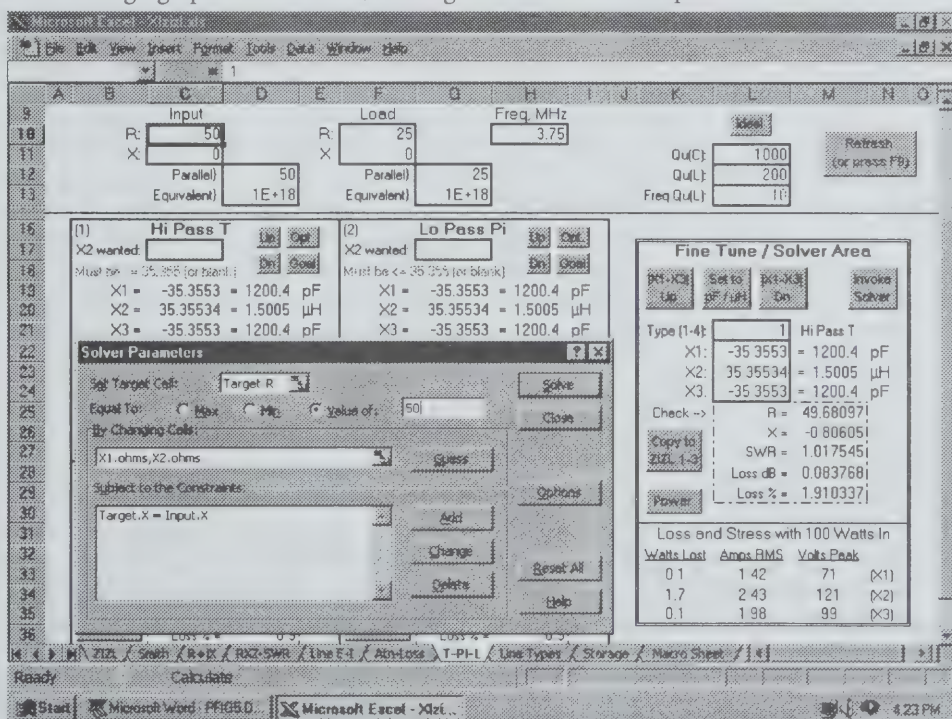

**Fig. 4—Numerical solutions for four common networks transforming  $25+j0$  to  $50+j0$ .**
Another way to experiment with changing component values is to use a more specialized sheet that deals only with certain types of matching networks, without baluns and transmission lines. Fig 4 shows this sheet, which has a “numerical” rather than “graphical” flavor. For variety the example has been changed in this case to that of transforming a load impedance of  $25+j0$  ohms to a target input impedance of  $50+j0$  ohms. Four common networks are shown with worked-out approximate solutions. (The initial solutions are approximate, not exact, because component Q has not been factored in yet. Notice anything interesting about the component reactance values for the networks?) Using the approximate solutions, the Check boxes then show the results of doing a ladder analysis from load to input with component Q included. When you’ve decided which network to investigate further (in this case the “Hi Pass T”), the Fine Tune area allows you to try your hand at manually changing the component values (like manually twisting tuner knobs). But there is also another way.
you can invoke the Solver (and a related tool called Goal Seek) at any time on any worksheet. Fig. 5 is a screen capture showing the Solver window with just one example of a particular problem to be solved; this was the problem setup used to produce the results shown in Fig. 4. (It must be mentioned that the Solver sometimes fails to find the “expected” correct answer, although it may find “a” correct answer. In general, the Solver is best used to “home in” on an exact answer after you have already set the input variables to at least approximate values.) Once you are done manually or automatically tuning the network component values, other buttons
**Figure-6** shows an example. The plot segments represent the three components of the "Hi Pass T" network of Figs 4 and 5 (load  $25+j0$  transformed to input  $50+j0$ ), except in this case we'll use ideal components with no losses. Network element 3 is the series output capacitor. Fig 6 shows that this component (x markers) only changes the reactive part of the load impedance as the amount of capacitance is changed. (The plotted points move straight down from  $25+j0$  ohms.) That makes sense, as starting with  $25+j0$  ohms and adding  $0-j35.36$  in series results in  $25-j35.36$ . The R part hasn't changed. But when this impedance of  $25-j35.36$  is combined in parallel with the inductor (final inductor reactance is  $0+j35.36$  ohms) both the R and X parts change as the amount of inductance is changed. The middle plot segment (+ markers) shows this. (The plotted points "walk" counter clockwise.) Even though element 2 is a pure reactance X, when combined in parallel with  $25-j35.36$  the result will show a change in both R and X. The R part of the combination starts at a value of 25, progresses through a value greater than 50, and ends up right at 50, all as a result of parallel combining just different amounts of X. And now it's pretty obvious that the only job left for element 1 (the series input capacitor, triangle markers) is to get the X part of the impedance back to 0, as the final plot segment shows.